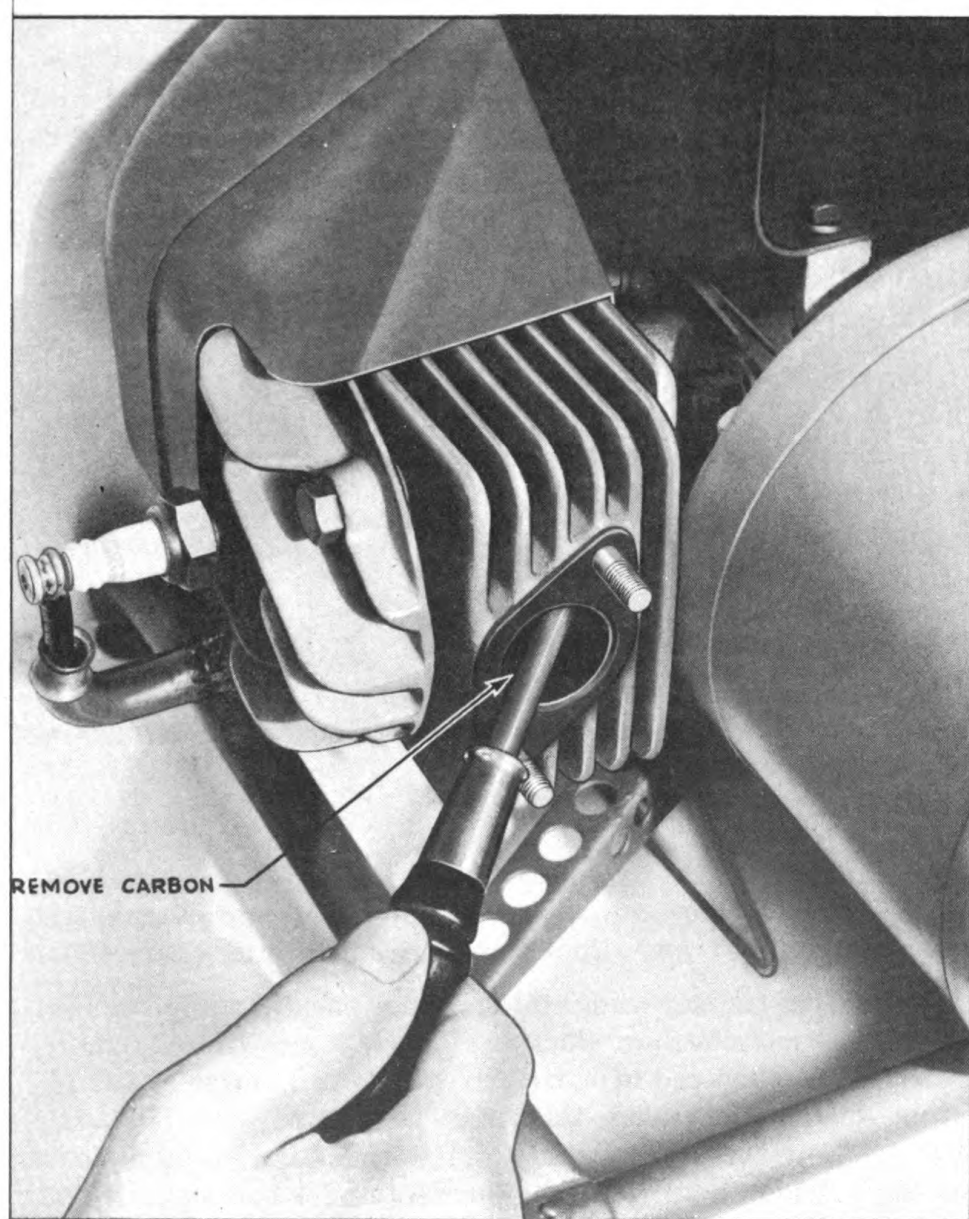

FIG. 13—CARBON REMOVAL—EXHAUST PORTS
(1) Remove spark plug.
(2) Remove muffler.
(3) Turn engine over by hand until piston reaches bottom dead center. Examine exhaust ports. Carbon and lead deposits in the exhaust ports can be removed with screw driver or some similar instrument. (See Fig. 13, Page 28.) Be careful not to damage the piston when removing the deposits from ports.
(4) It is preferable when exhaust ports are found partially closed by carbon and lead deposits, to make a thorough check of the piston, intake port, and cylinder head. The following should be done: